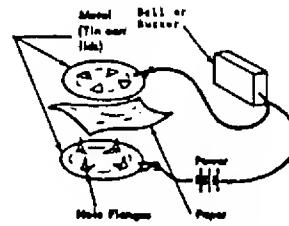

Figure 382 Pressure Device Booby Trap
1. A "Pressure Device" can be made by punching holes in the end pieces of two #10 cans as shown in Figure 382. An electric lead is fastened to each piece. They are placed with the jagged edges facing each other with a piece of paper between, forming the only break in a circuit connecting a buzzer and a power source. Pressure on the top piece of metal will puncture the paper and complete the circuit, causing the buzzer to go off.